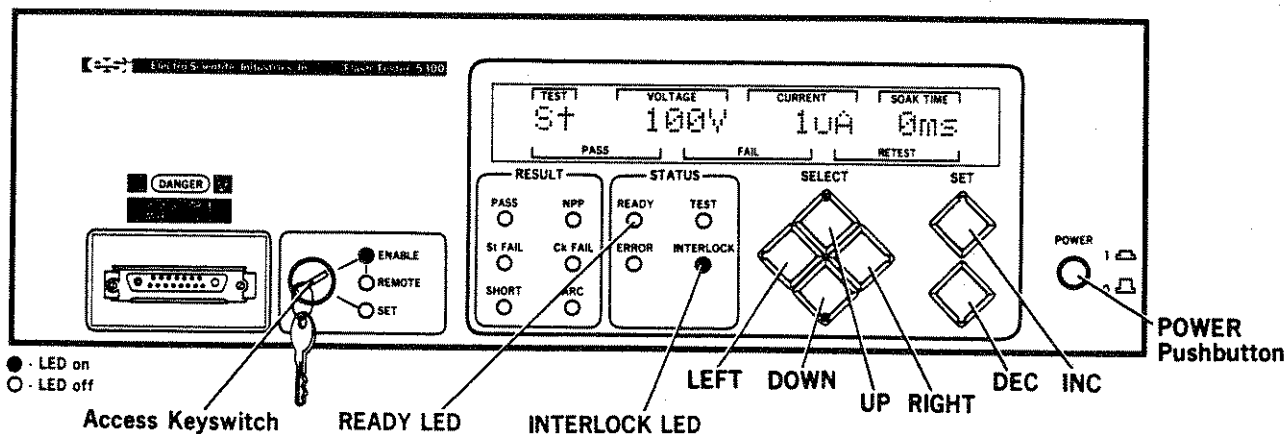

Figure 7-56. Front Panel
STEP 4. Press the POWER pushbutton to turn the 5300 to 1 (on). Wait for the self-test to complete, as indicated by the READY or INTERLOCK LED illuminating. Refer to Figure 7-56.
STEP 5. The test conditions must be reset through the use of the Test Conditions Reset screen. Turn the access keyswitch to the SET position. Refer to Figure 7-56.